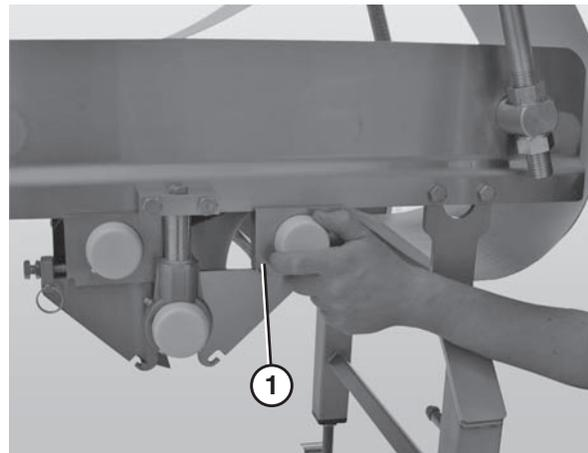

Figure 60
4. Slide the tension spindle assembly (Figure 60, item 1) out of the housing.